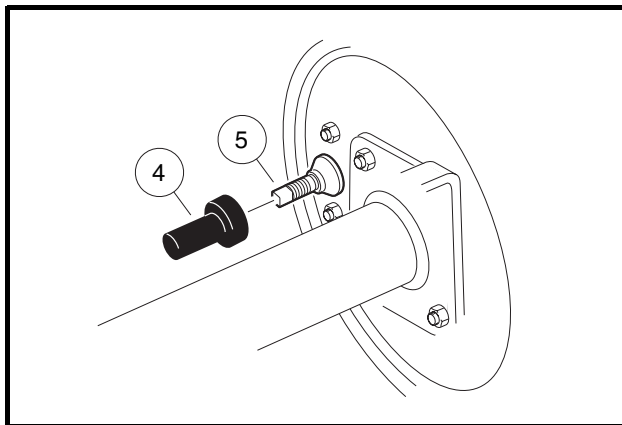
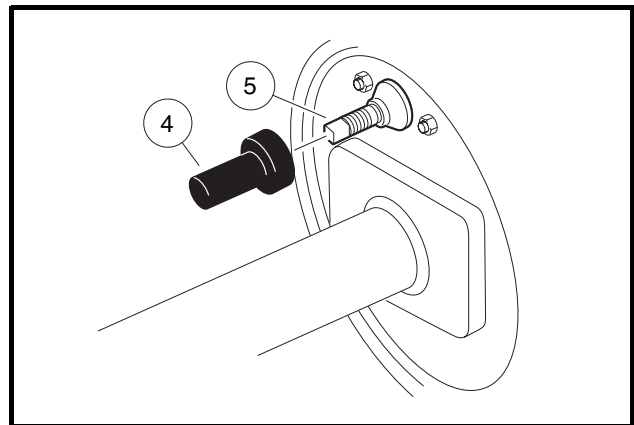

Figure 6-29 Front Brake Adjustment Bolt
Figure 6-30 Rear Brake Adjustment Bolt
3. Remove the dust cover (4) on the left and right rear brake cluster assemblies (**Figure 6-29, Page 6-13** and **Figure 6-30, Page 6-13**).
3. Install the rubber dust covers (4) over the brake adjustment bolts (5) (**Figure 6-29, Page 6-13 and Figure 6-30, Page 6-13**).